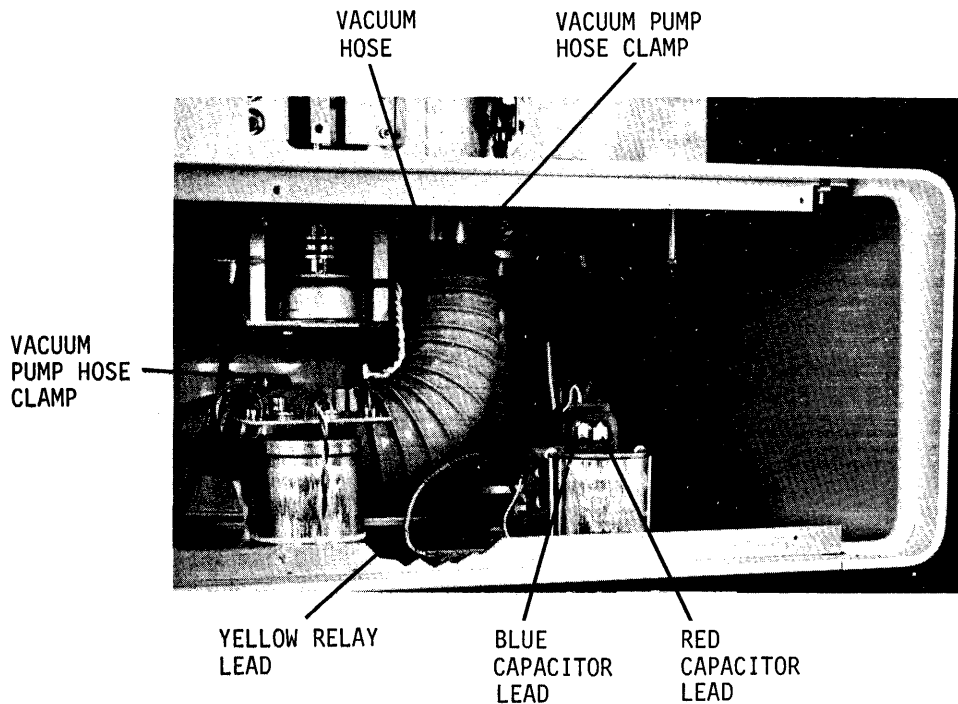

Figure 9-10. Vacuum Motor Pump Assembly Connections
- d. Remove two connectors from capacitor and one connector from relay disconnecting vacuum pump motor, figure 9-10.
- e. Loosen vacuum hose clamp on vacuum pump and remove hose from pump, figure 9-10.
- j. LOOSEN screw on two large hose clamps, remove blower hose, figure 9-10.